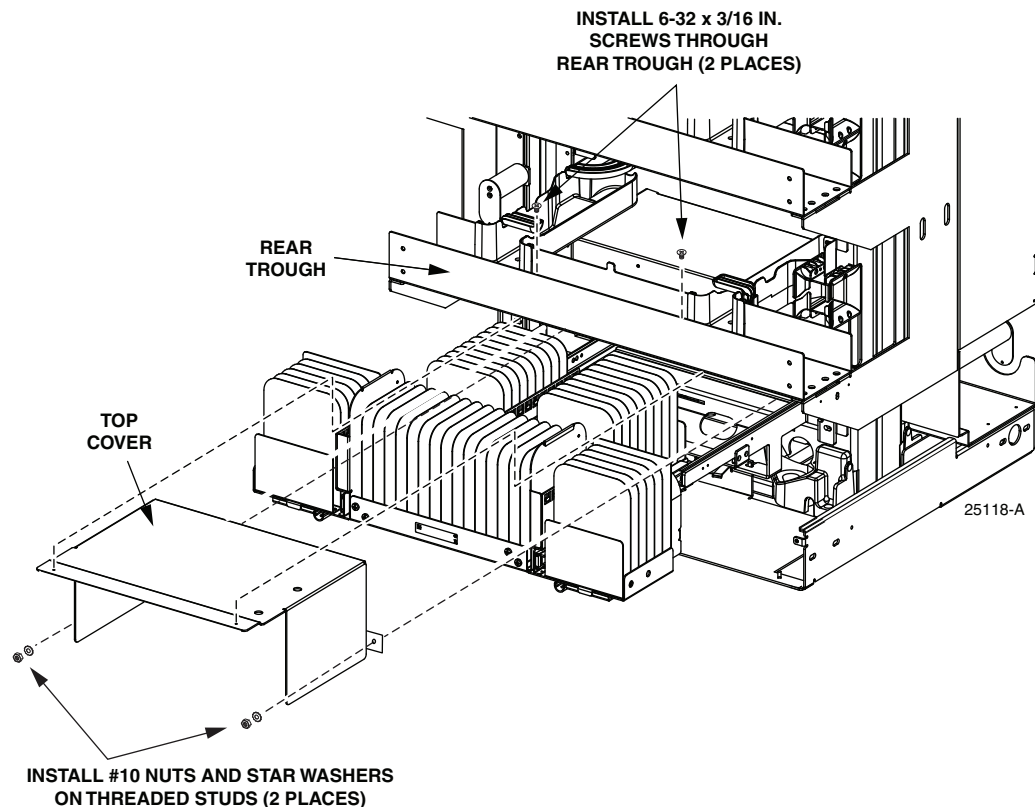

Figure 10. Installing the Top Cover
7. With the chassis slides extended fully, install the top cover as follows (refer to Figure 10):